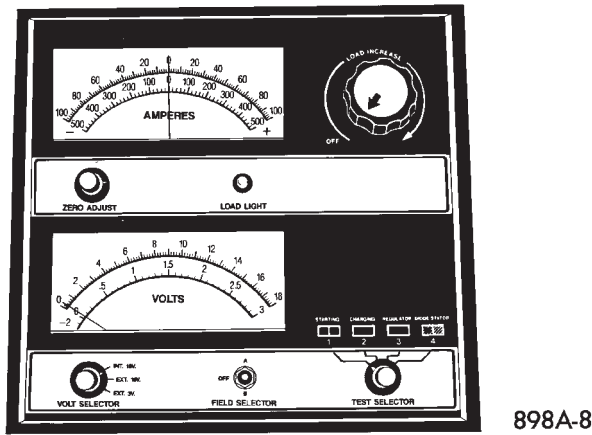
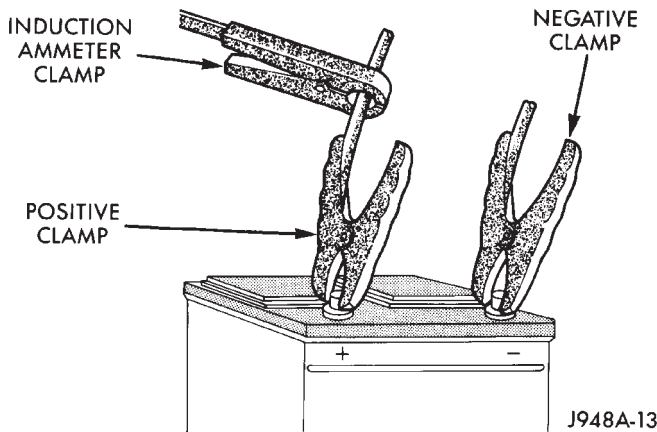

Fig. 4 Volt-Amps-Load Tester (Typical)
Fig. 5 Volt-Ammeter-Load Tester Connections
(1) Remove both battery cables, negative first. Battery top and posts should be clean.
(2) Connect a suitable volt-ammeter-load tester (Fig. 4) to the battery posts (Fig. 5). Refer to operating instructions provided with the tester being used. Check the open circuit voltage (no load) of the battery. Open circuit voltage must be 12.4 volts or greater.